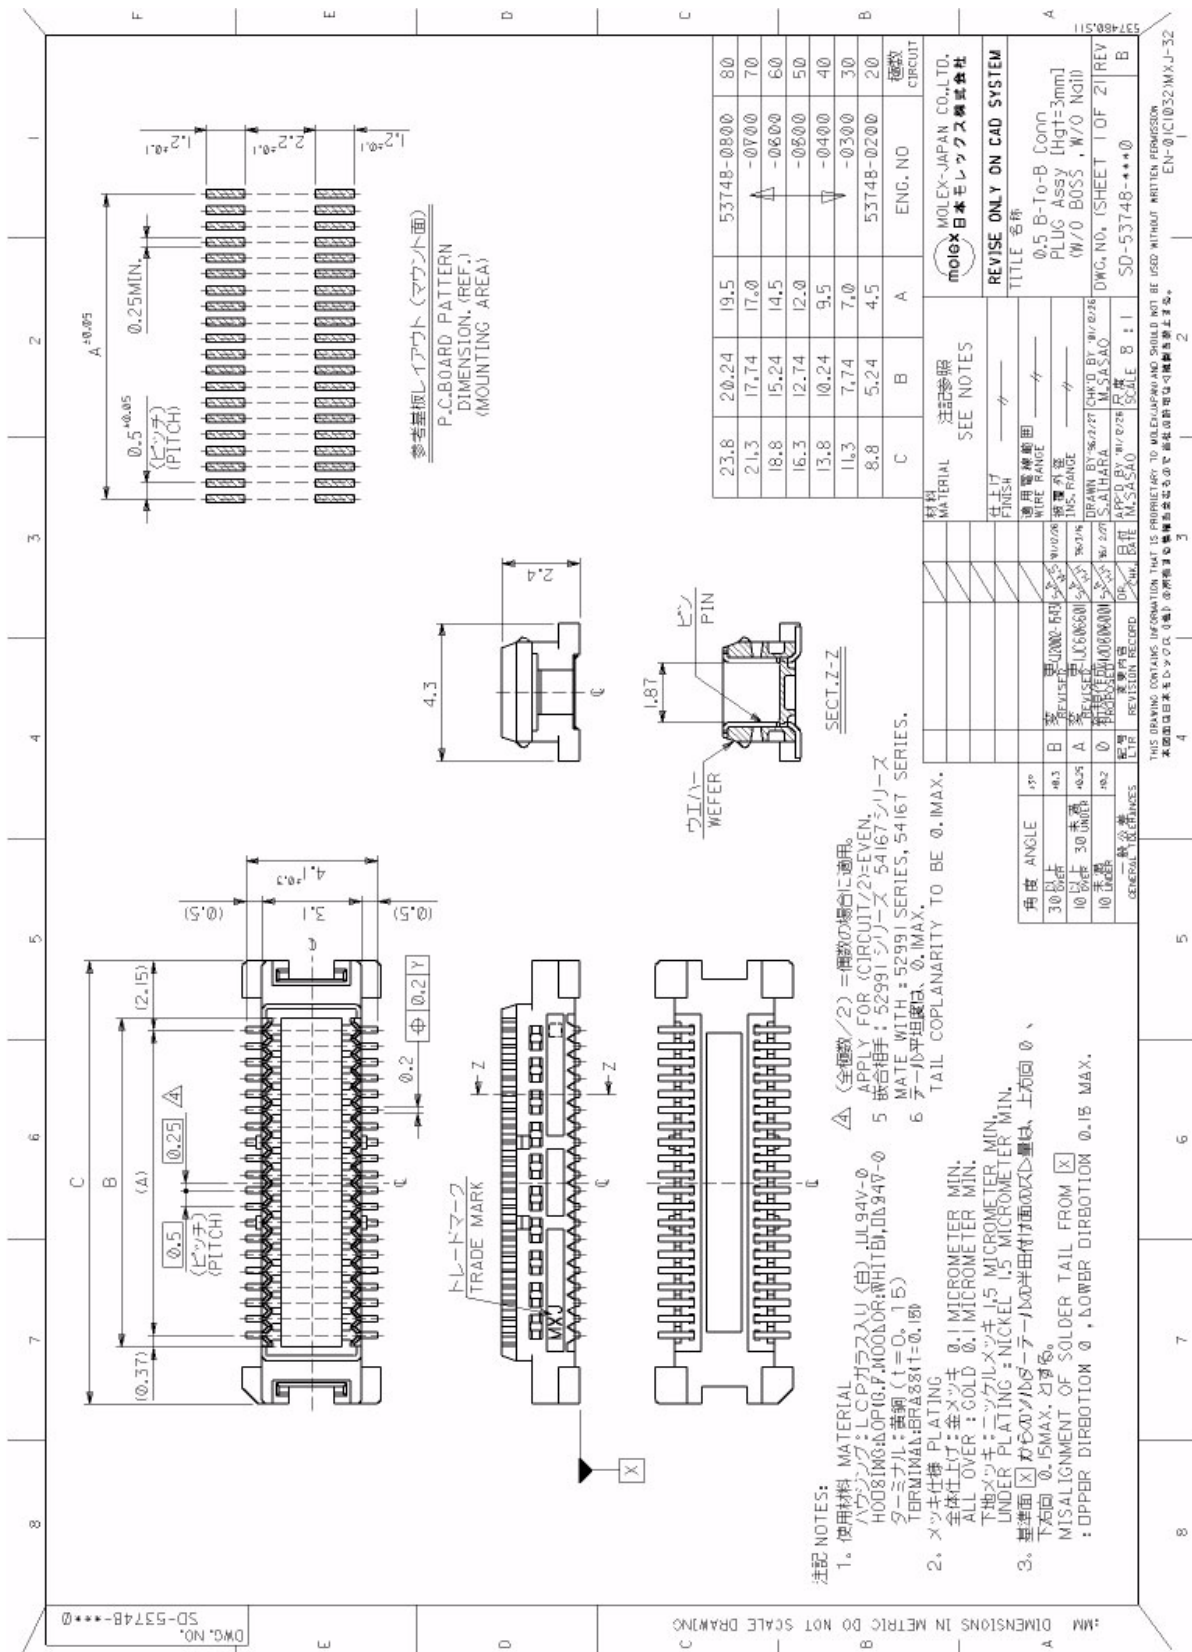

Figure 33: Mating board-to-board connector 53748-0808 on application
- 53748-0808 SlimStack Plug, 3mm stacking height, see Figure 33 for details.